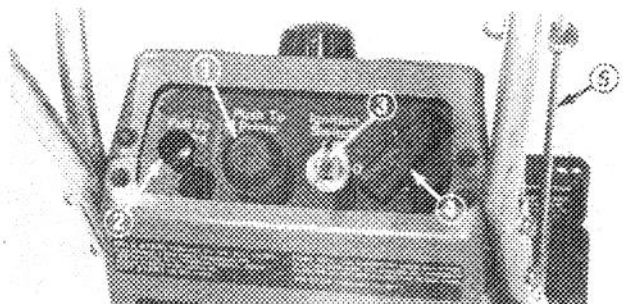

Figure 4
1. Primer (Fig. 4) — Push primer to pump a small amount of fuel into the carburetor which allows the engine to be started easier in cold temperatures. **DO NOT USE PRIMER WHEN ENGINE IS HOT.**
2. Choke (Fig. 4) — Pull choke out to start engine. Because air intake into carburetor is restricted, engine receives a rich fuel mixture for easy starting.
3. Ignition Switch (Fig. 4) — Switch has ON and OFF position. Rotate key to ON to open the switch; then engine can be started by pulling recoil starter.
4. Recoil Starter (Fig. 4) — Pull recoil starter to start the engine.